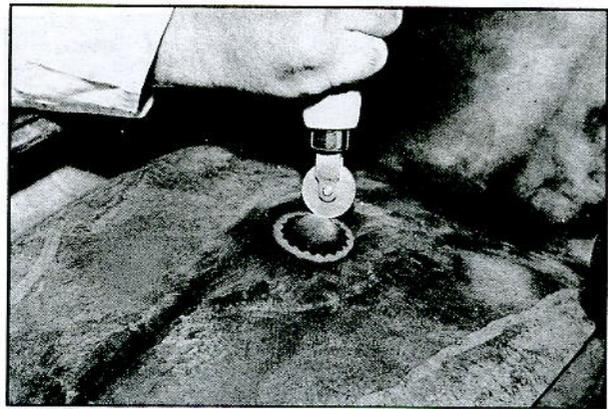

Fig. 13—Stitching Patch
6. Remove foil backing from patch. Place over injury and stitch down firmly, (fig. 13) especially the edges, with roller tool included in kit. To prevent buckling and insure a good seal, roll patch from the center toward the outer edges. Vulcanization is completed chemically. The repaired tire can be placed back in service immediately.